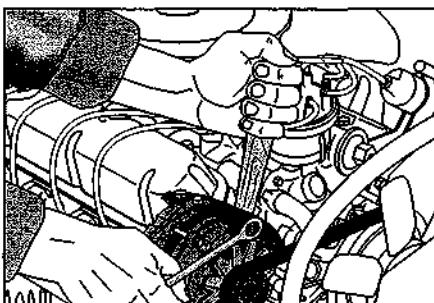

Figure 14-15:
- S. Pull the part by hand until the belt is snug; then use a hammer handle to apply leverage until the belt has less than $\frac{1}{8}$ inch of "play." Tighten the adjustment bolt or securing nut (see Figure 14-15). Tighten the pivot bolt or securing nut (refer to Figure 14-11).